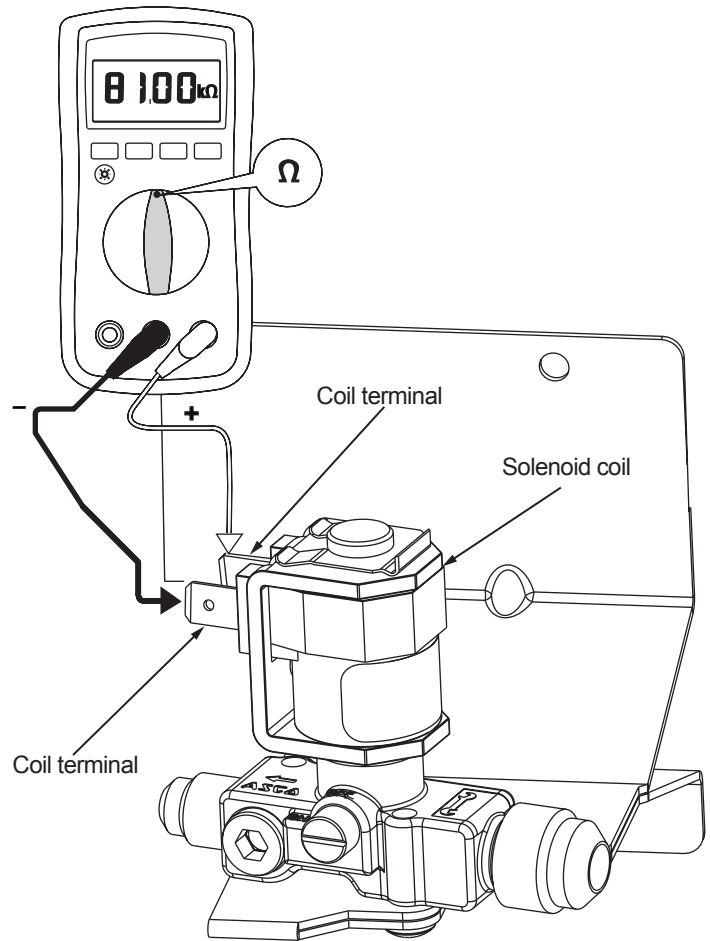

Figure 4-4. —Checking solenoid coil resistance.
4. Connect multimeter probes to the solenoid coil terminals as illustrated in Figure 4-4.